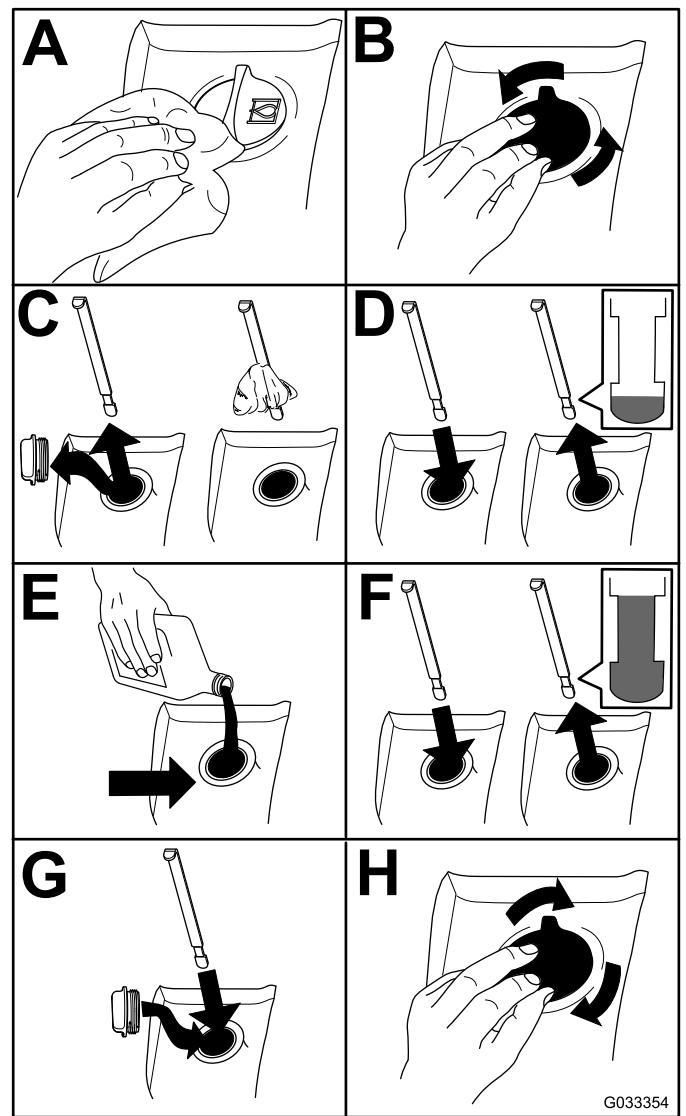

Figure 75
2. Check the hydraulic-fluid level (Figure 75).